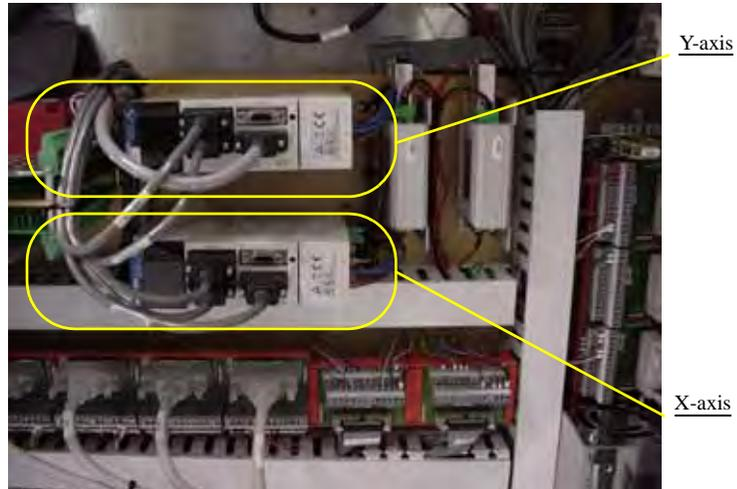

Figure 5-8—Y-axis and X-axis servo motor amps
- 1b) Open right side cabinet door and locate the Y-axis and X-axis servo motor amps. See *Figure 5-8*.